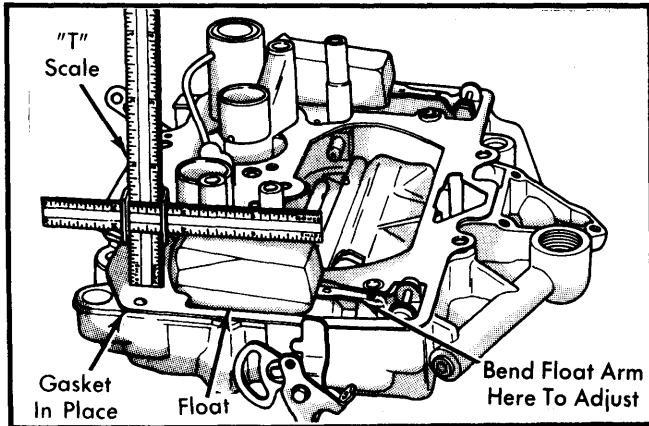

Fig. 2 Adjusting Float Level
- 1) Turn air horn upside down. Place air horn gasket in position on air horn. Make sure floats are against seated needle valve. See Fig. 2.